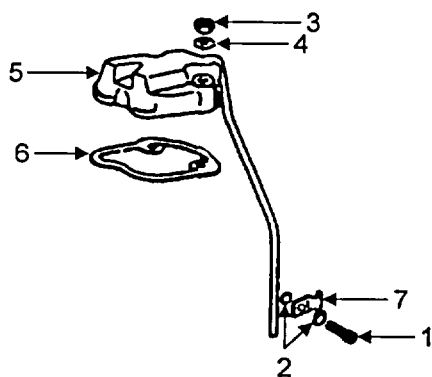
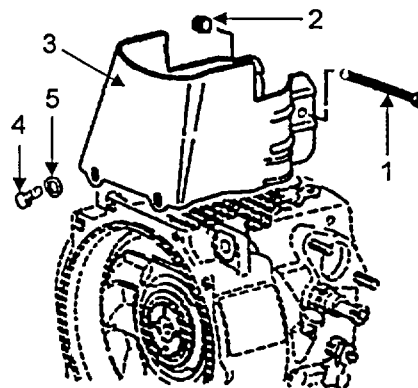

FIGURE 5-28. VALVE COVER
FIGURE 5-29. COWLING
a. Install new gasket (Figure 5-28, Item 6) on cylinder head.
b. Install cylinder head cover (5) on gasket (6).
c. Install two spring washers (4) and nuts (3). Tighten securely.
d. Install pipe clip (2), washers (7), and screw (1).
e. Install cowling (Figure 5-29, Item 3) on engine.
f. Install screw (1) and hex nut (2).
g. Install screws (4) and washers (5).